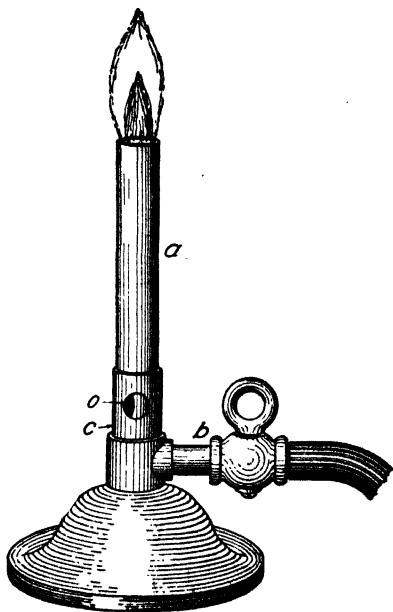

Fig. 33. Typical Bunsen Burner
**Burner Principles. Bunsen Burner.** The purpose of the burner is first to vaporize the liquid fuel by heating it and then to mix it with enough air to produce the hottest possible flame under the boiler. In principle the burner is the same as the ordinary Bunsen burner, Fig. 33, in which the gas passes under moderate pressure through the small opening *b*. In going up the tube *a* it draws in a certain amount of air through the openings *o*, the fuel gas and air becoming well mixed in the tube before reaching the flame. In case either too much or too little air is mixed with the gas, the flame will run back through the tube *a*, and will burn at *o*. This is called "popping back", and not only takes away the effect of the flame but will ruin the burner if allowed to continue in operation in this way.